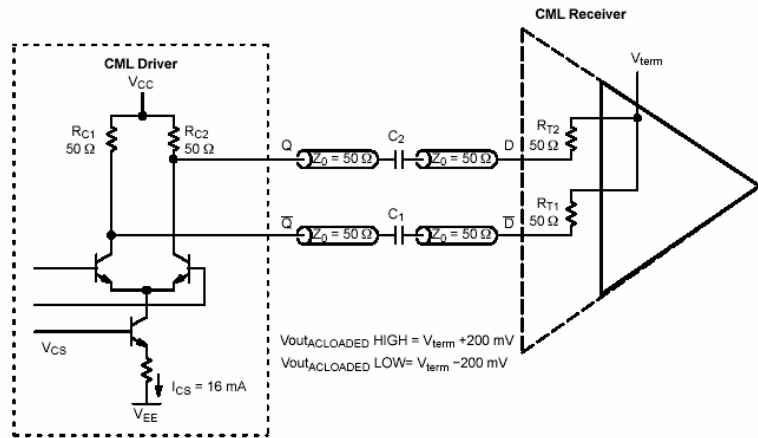

Figure 7. CML Output with Cap Coupling (AC) and Load Termination of 50 Ω to V_{term}
A driver and receiver using a cap, C_x , coupled (AC) differential interconnect and receiver side 50 ohm termination (R_T) requires a DC receiver side rebiasing, V_{term} , to the signal lines as shown in Figure 7. The coupling cap, C_x , value and the load impedance constitute an RC network affecting the signal edges. Cap coupling (AC) restricts low frequency response and may require coding to maintain a sufficient crossing density.